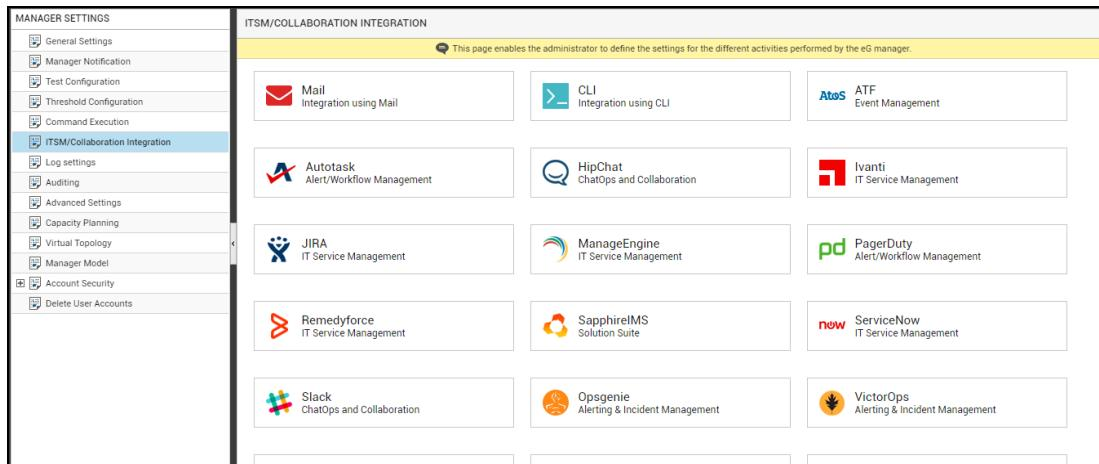
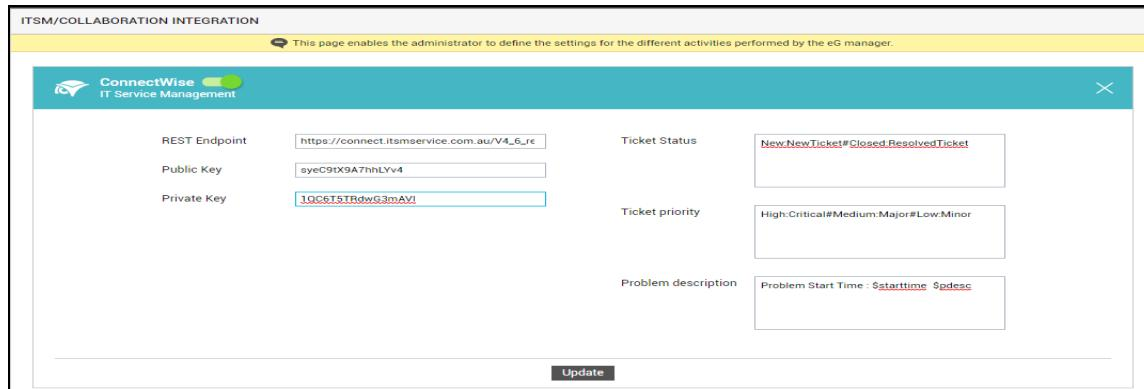

Figure 5.23: Viewing the ITSM/Collaboration tool options
Figure 5.24: Configuring integration with ConnectWise
3. Figure 5.23 will then appear. From the **MANAGER SETTINGS** tree in the left panel of Figure 5.23, select the **ITSM/Collaboration Integration** node. The third-party ITSM/Collaboration tools that eG Enterprise can integrate with will be listed in the right panel.
4. Now, click on the **ConnectWise** option in the right panel (see Figure 5.23). A **ConnectWise** section will now appear in the right panel (see Figure 5.24).
5. To enable integration with ConnectWise, first slide the **ConnectWise** slider in Figure 5.24 to the right.
6. Then, specify the following in Figure 5.24:
7. Finally, click the **Update** button in Figure 5.24 to save the changes.